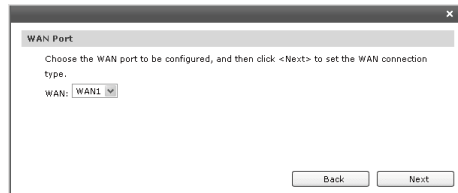

Figure 5-6 WAN Port
5. Select the WAN port you want to use as the Figure 5-6 shown, and then click **Next** to load the **WAN Connection Type** screen.